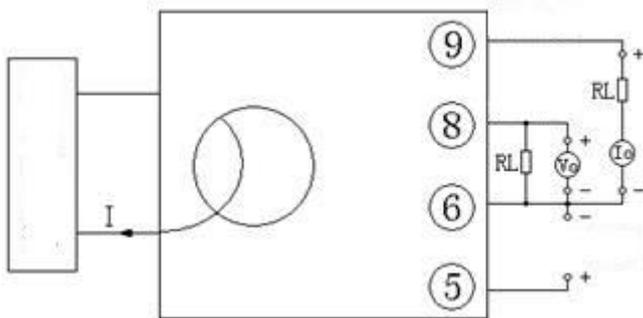

Figure 6, test wiring diagram of voltage or current output of product accuracy.
- ① A high-precision high-current meter calibrator can directly input current as shown in figure 6, and record the display data of the meter calibration instrument.
- ② There is no high-current high-precision instrument calibrator, but an ordinary high-precision instrument calibrator. Use ampere-turn method to output small current (5A, 10A or higher), and input it to the transducer input coil. The precision ammeter is tandem connection to the calibrator output end to detect input current, and convert the input current I value according to the ampere-turn method.